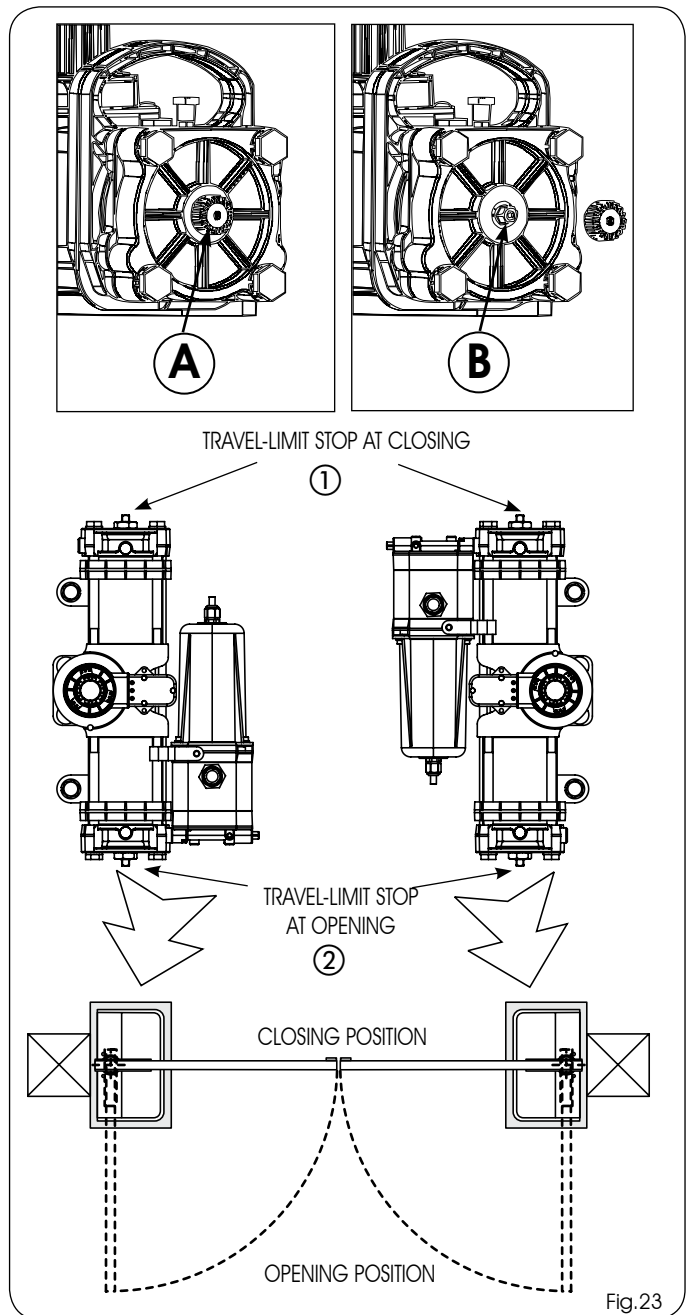

Fig.23
- 3) Unscrew the cap (Fig.23 ref.A) of the closing travel-limit screw (Fig.23 ref.①)
- 5) Fasten the cap (Fig.23 ref.A) of the travel-limit stop screw.
- 7) Unscrew the cap of the screw (Fig.23 ref.A) of the opening travel-limit stop (Fig.23 ref.②).
- 8) UNSCREW the travel-limit stop screw (Fig.23 ref. ②), until the leaf begins to move.